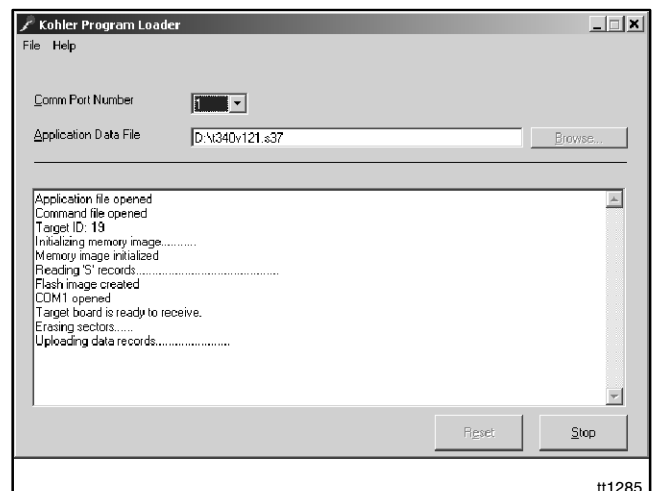

Figure 13 Program Loader Screen
2. Enter the number of the computer's COM port (number 1 through 16) that is connected to the controller through the communication cable. See Figure 13.